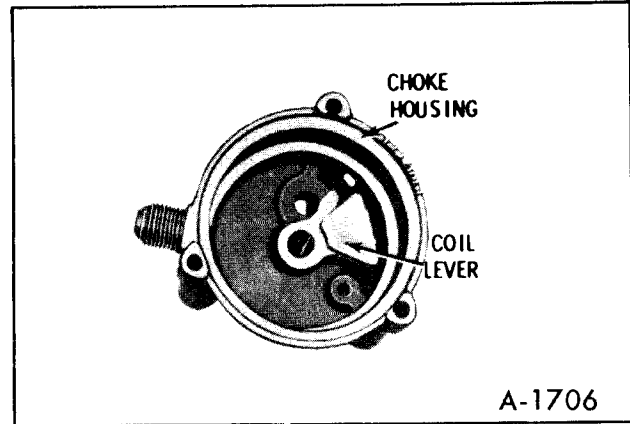
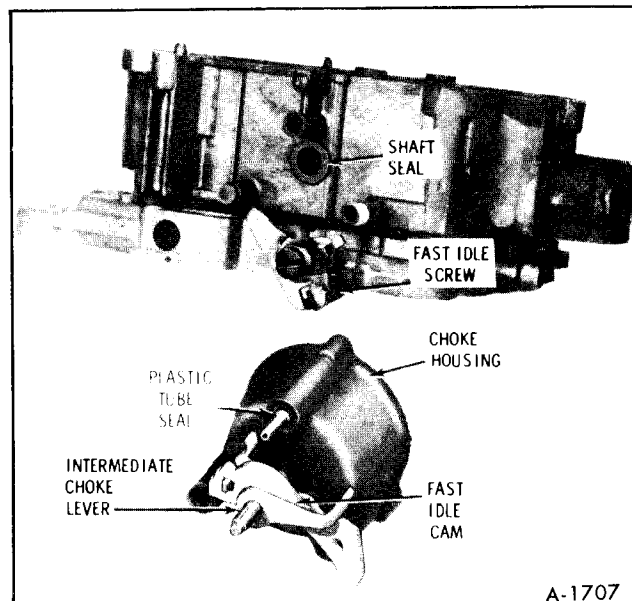

Figure 21—Choke Coil Lever
Figure 22—Choke Housing Sealing
3. To disassemble intermediate choke shaft from choke housing, remove coil lever retaining screw at end of shaft inside the choke housing (figure 21). Then remove thermostatic coil lever from flats on intermediate choke shaft. Remove intermediate choke shaft from the choke housing by sliding outward. The fast idle cam can now be removed from the intermediate choke shaft. See Figure 22.
2. Install fast idle cam onto the intermediate choke shaft (steps on fast idle cam face downward) as shown in Figure 22.